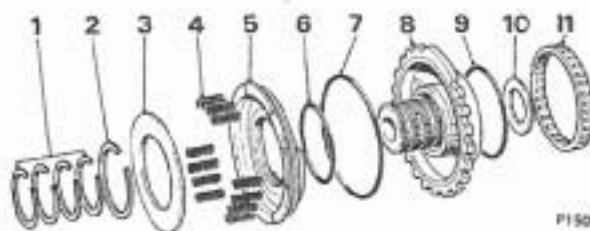

FIG. T264 CENTRE SUPPORT—EXPLODED
1. Remove the four oil seal rings from the centre support (see the exploded view in Fig. T264); discard the rings.